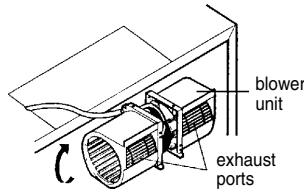
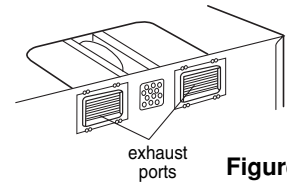

Figure 16
Figure 17
5. Rotate the unit so that the exhaust ports face the rear of the cabinet. See Figure 17. When you insert blower unit, blower wire must be like figure 16.
6. Place blower unit back into cabinet. Check that the exhaust ports face towards the rear of the cabinet. See Figure 17.